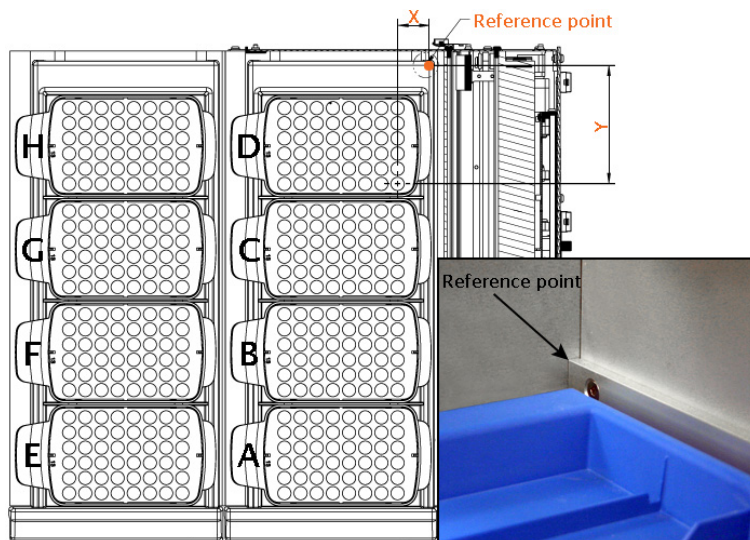

Figure 2-4. X- and Y-Coordinates for Rack Position D
- The number of columns and rows of vessels in a rack. For example, the racks in Figure 2-4 have six (6) rows and eight (8) columns each.
- The x- and y-coordinates for the first vessel position of each rack on the collection area; see Figure 2-4.